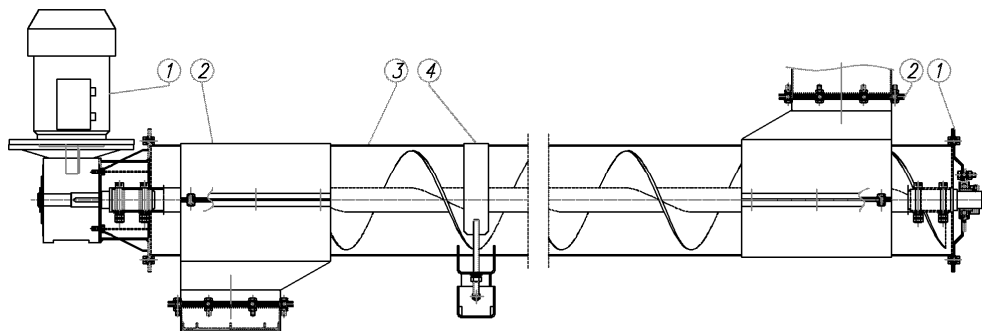

Fig.14: PS220— basic version
- a) The simplest version of the screw conveyor made on the basis of PS220 system modules (see Fig. 14) consists of the following: drive, 1, PS220-N3/200 or PS220-N4/200 or PS220-N6/300; screw conveyor extension, 3, PS220-P1.0 or PS220-P1.5 or PS220-P2.5 or PS220-P3.0; inlet/outlet, 2, PSU220-I/O-200 (2 pieces) and fitting MOCRUR200, where number of pieces depends on installation conditions and screw conveyor length (the rule is that the screw conveyor should be secured every 4.5 m).